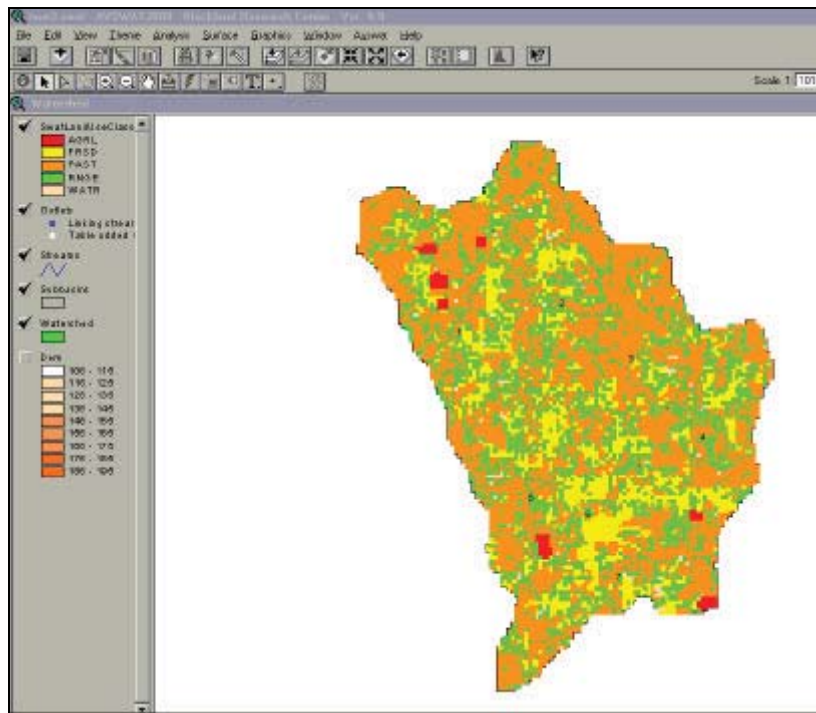

Figure 6.25
5. A new theme named "SwatLanduseClass" will be displayed in the *Watershed View* (Figure 6.25).